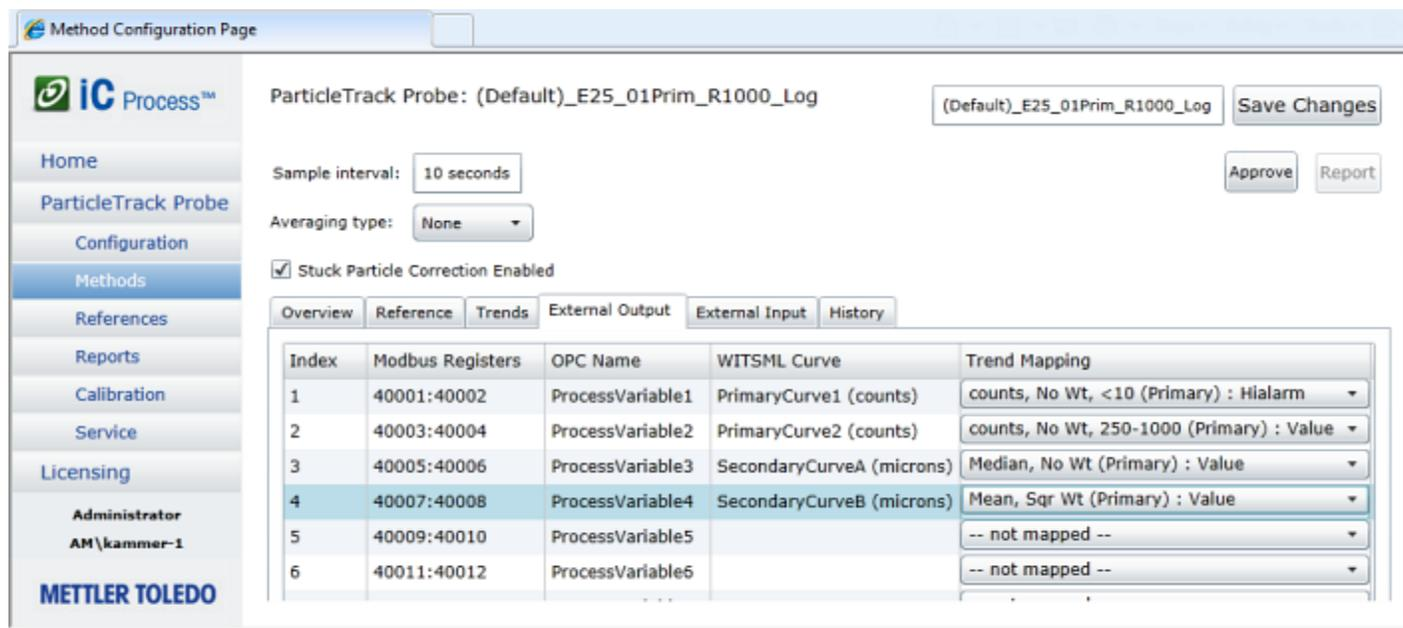

Figure C-2 WITSML Curve association in method—External Output tab
1. Assuming that method development is complete for the wellsite process, go to the Methods > External Output tab (Figure C-2).